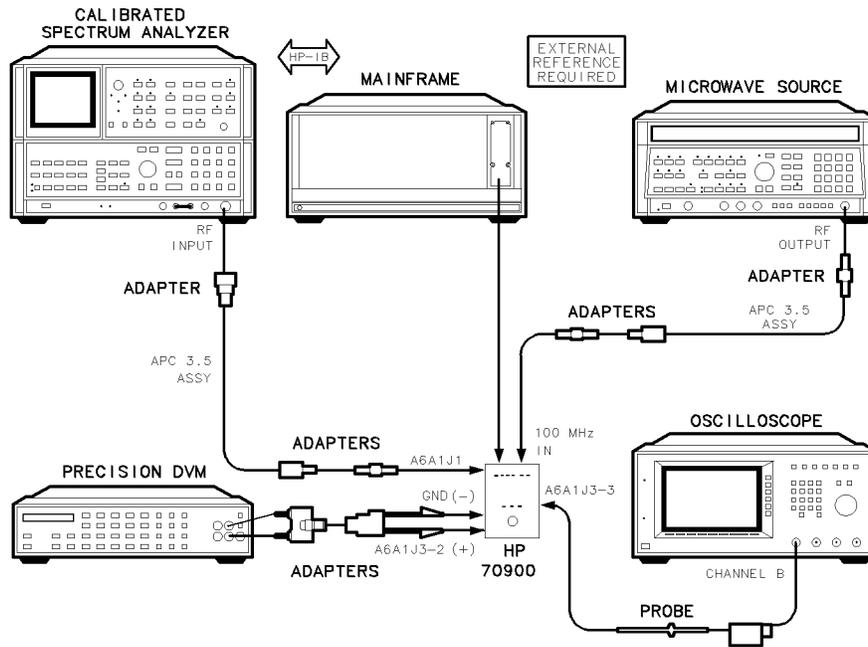
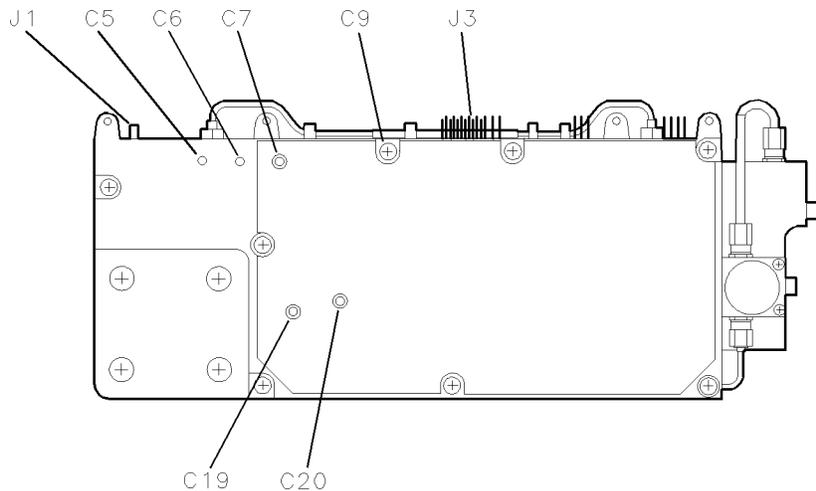

Figure 6-3.
Figure 6-4. Locations for Adjustment 02. 100 MHz Reference/300 MHz Bandpass Filter
10. Connect the test equipment as shown in Figure 6-3. Figure 6-4 illustrates the test points and adjustment locations on the A6A1 100 MHz reference. Connect the spectrum analyzer to A6A1 100 MHz reference (J1). Connect the positive DVM lead to A6A1 100 MHz reference (J3-2) and the negative lead to the chassis. Connect the oscilloscope probe to A6A1 100 MHz reference (J3-3) and the probe's ground lead to the chassis. Connect the synthesized source to the local oscillator source's rear panel 100 MHz jack. (This jack is electrically connected to A6A1 100 MHz reference (J2) through W9.)